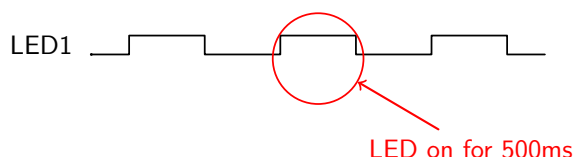

Figure 10: LED on and off, 1 second period
11. Verify a green LED is blinking on and then off every second, as shown in figure 10. The on board user LED is labeled LD2.